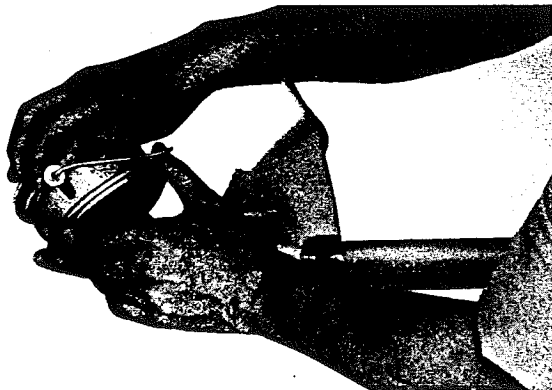

Figure 25
4. There are two eyelets, one on each side. After the nylon cord has been threaded through eyelets with thick side facing shaft holt, (may not be applicable on all heads), inset eyelets in side slots of housing while inserting interspool. Thus snapping together both interspool and eyelets in housing with one motion. Clip ends of nylon to equal lengths. Thread knob back on shaft and retighten. See figure 25.